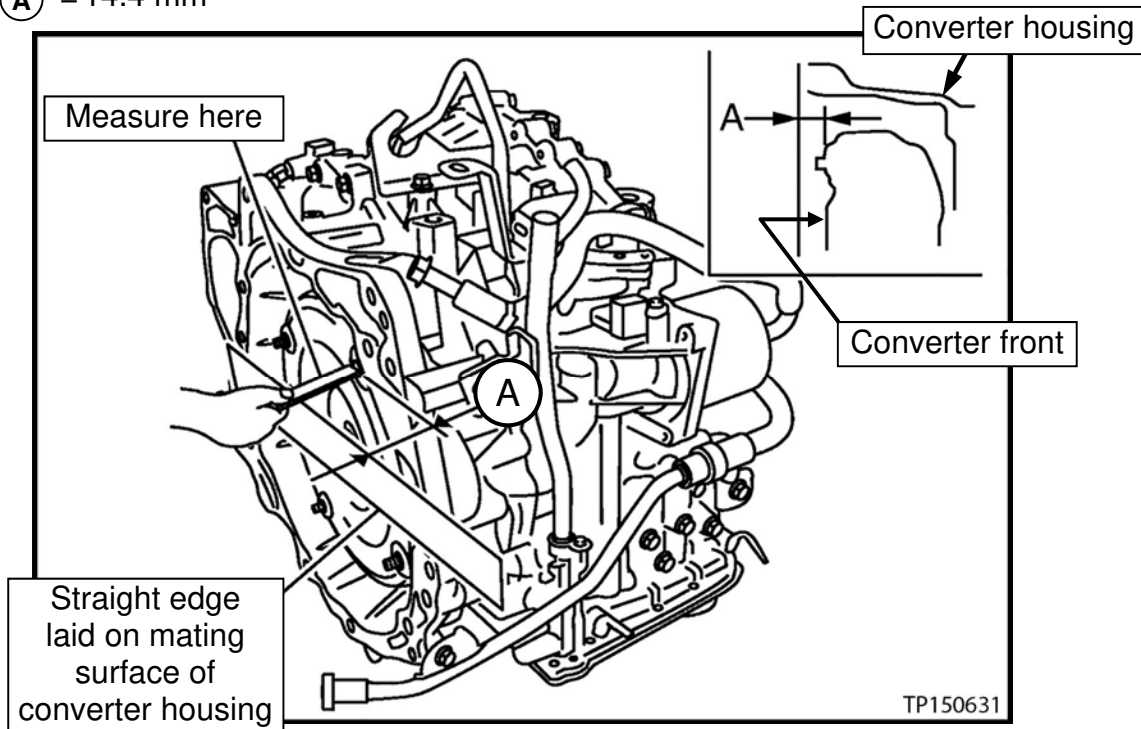

Figure 185
- Verify the torque converter is installed at the proper depth (see Figure 185).
- (A) = 14.4 mm